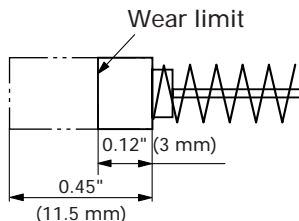

Fig. 25
4. Inspecting the carbon brushes (Fig. 25)